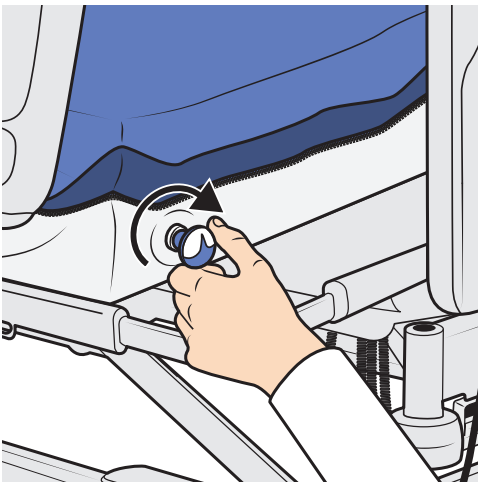

Figure 56
2. Turn the valve (under the valve symbol) on the bolster fully clockwise. See Figure 56